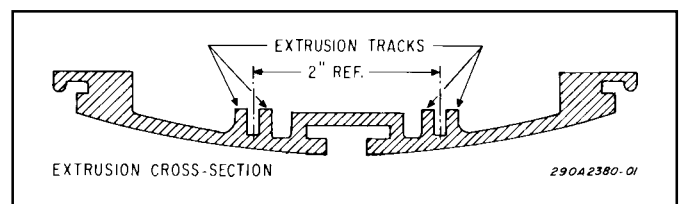

Figure 3.
3. Locate reflector along tracks provided in extrusion (figure 3) and secure reflector assembly to extrusion with three #10 hex head thread-forming screws (supplied).